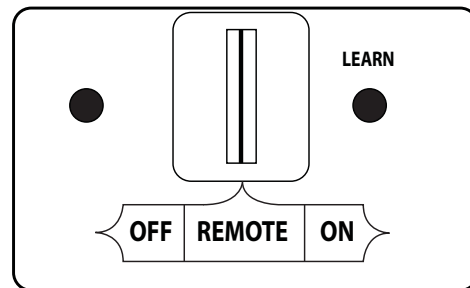

Fig. 41-1 Remote receiver detail (REMOTE)
1. Locate the 3-position switch on the remote receiver (see Fig. 41-1), and slide the switch to the **REMOTE** position.